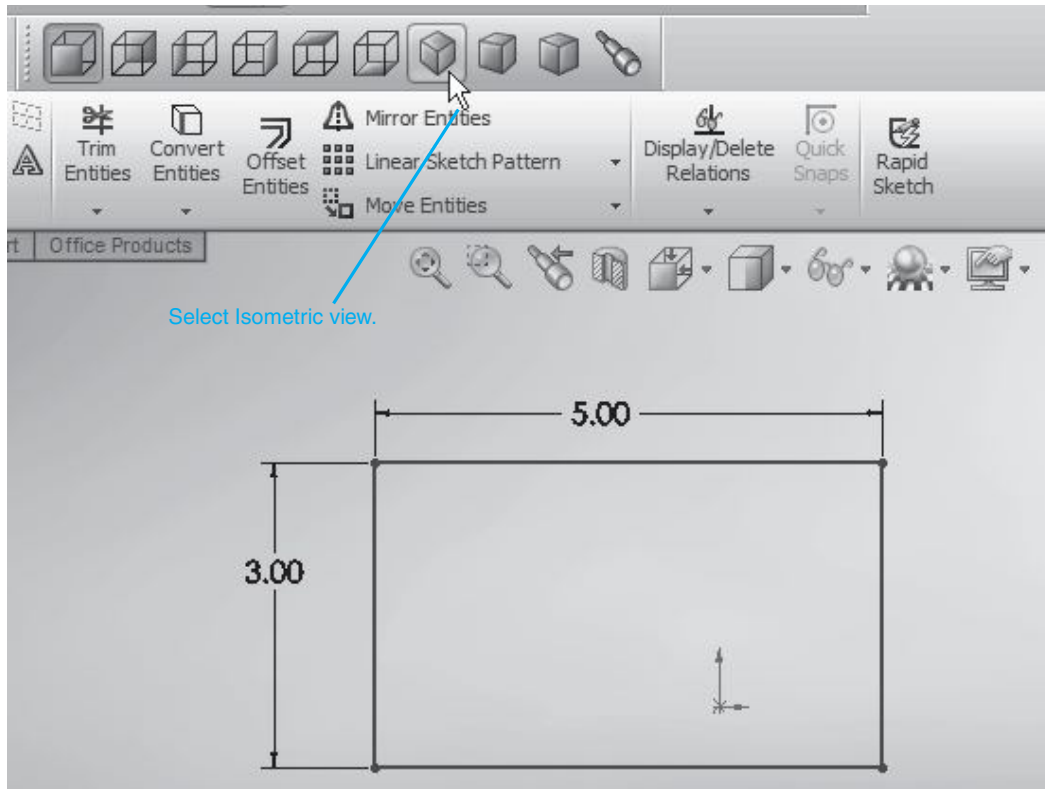

Figure 1-18
6. Select the check mark in the **Line Properties Manager** and select the **Isometric** option from the selection flyout adjacent to the axis orientation icon. See Figure 1-18.